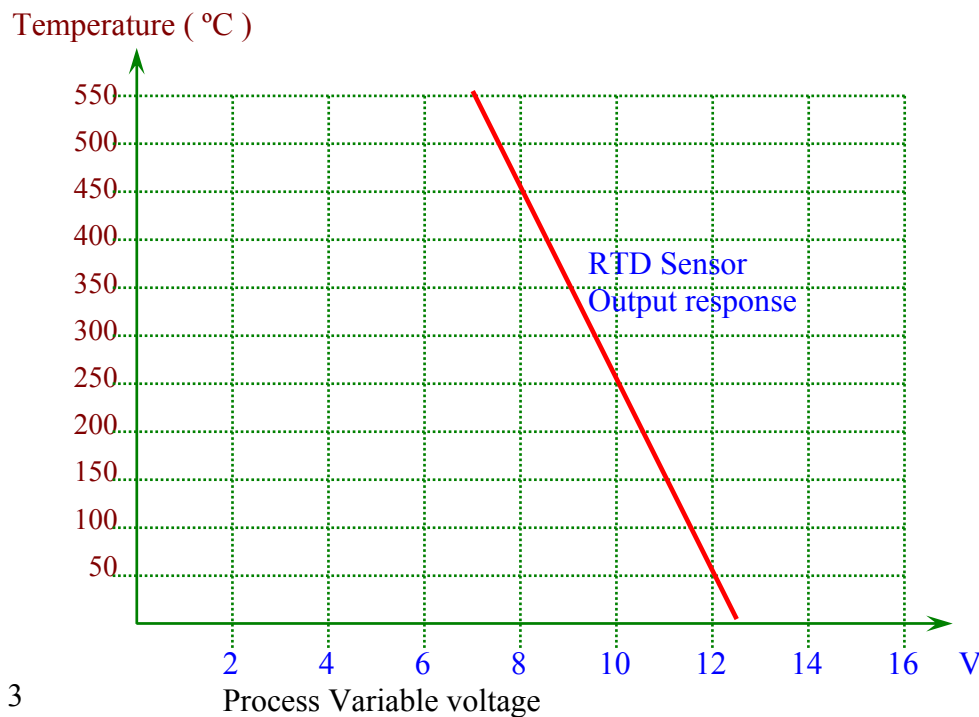

Figure 3
Usable temperature = - 200°C to 750°C, see Figure 3.
From Figure 3 the V_{process variable} for 350°C is 9 V and for 450°C is 8 V.
- $V_{process\ var} = +13V$ (See Figure 3, $T = 25^\circ C$)
- See Figure 3. As $T \uparrow \Rightarrow V_{process\ var} \downarrow \Rightarrow V_{error} \uparrow$ ($V_{error} = 8.5V - V_{proc\ var}$)
At 150°C, $V_{\text{process variable}} = 11 \text{ V}$ (See Figure 3)